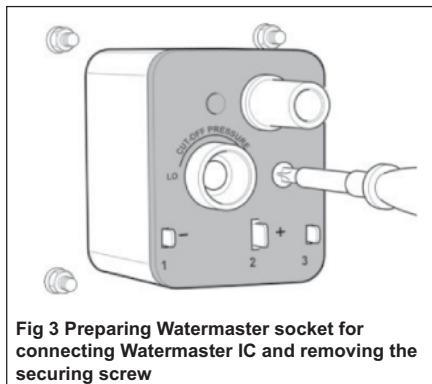

Fig 3 Preparing Watermaster socket for connecting Watermaster IC and removing the securing screw
### Replacing the empty cylinder, Figure 3.
- Step 4 - Remove securing screw (see Fig 3)